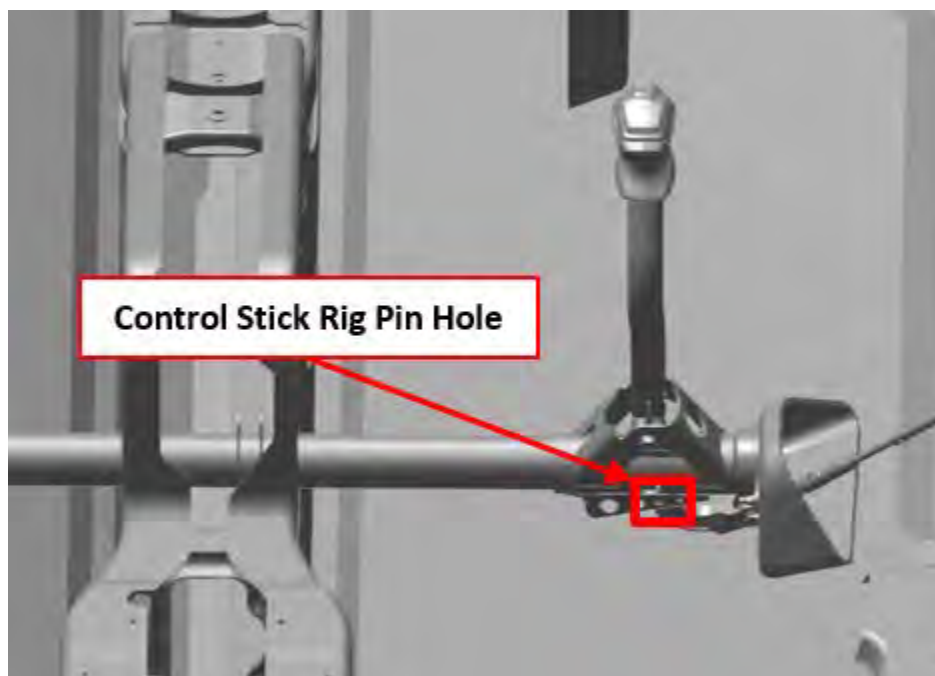

FIGURE 10-10
6. Install .1875 in diameter rig pin through the control stick rig pin hole. See Figure 10-10.